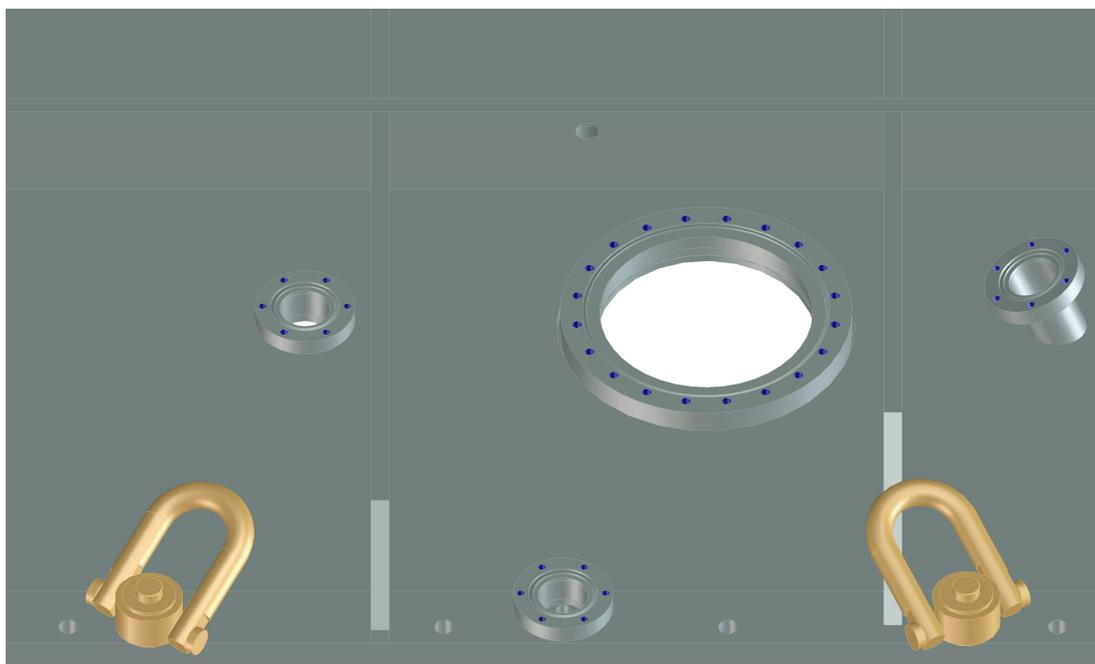

Figure 5. Two swivel rings installed onto the lid.
8. Install the two swivel rings onto the lid in the tapped holes at the locations shown in Figure 5.